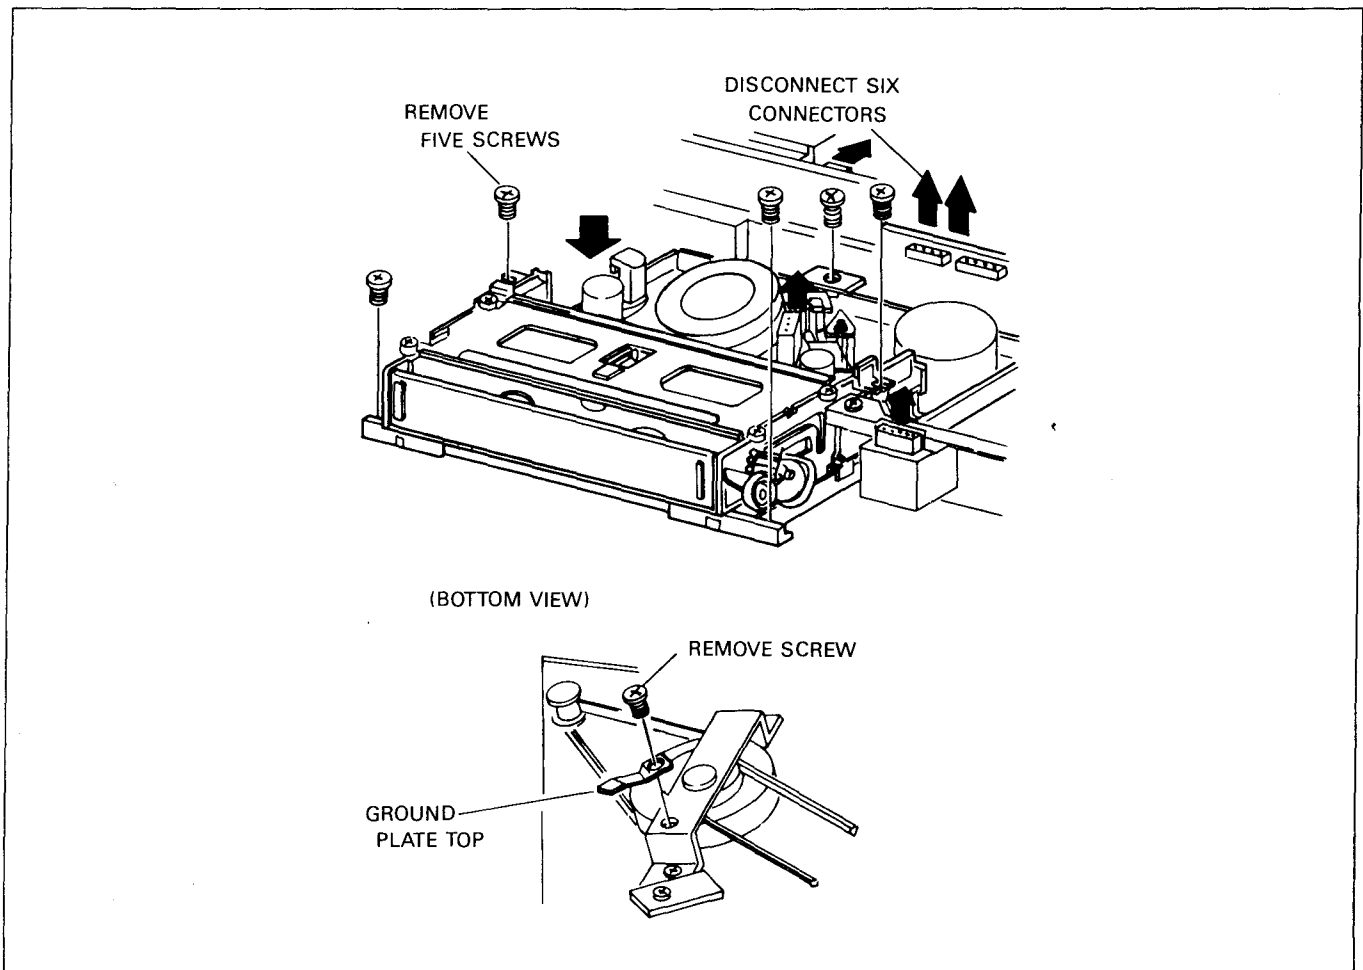

Fig. 22 Mechanical Chassis Assembly Removal
2-2-4. Mechanical Chassis Assembly Removal (Fig. 22)
3. Remove the mecha chassis assembly (See Fig. 22)
2. Remove the mecha chassis assembly (See Fig. 22)
5. Remove three screws (A) holding the holder capstan motor.
6. Remove three screws (B) attached to capstan motor.